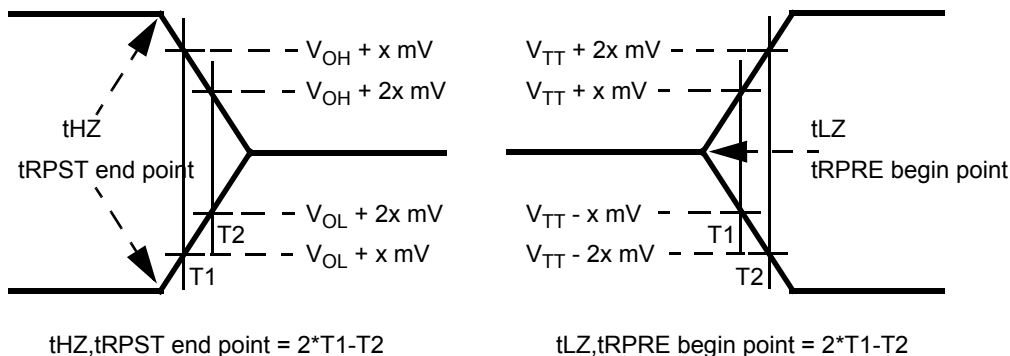

Figure 17 - Method for calculating transitions and endpoints
- $t_{DAL} = 4 + (15 \text{ ns} / 3.75 \text{ ns}) \text{ clocks} = 4 + (4) \text{ clocks} = 8 \text{ clocks}$ .
18. tHZ and tLZ transitions occur in the same access time as valid data transitions. These parameters are referenced to a specific voltage level which specifies when the device output is no longer driving (tHZ), or begins driving (tLZ) . Figure 17 shows a method to calculate the point when device is no longer driving (tHZ), or begins driving (tLZ) by measuring the signal at two different voltages. The actual voltage measurement points are not critical as long as the calculation is consistent. tLZ(DQ) refers to tLZ of the DQS and tLZ(DQS) refers to tLZ of the (U/L/R)DQS and  $\overline{(U/L/R)DQS}$  each treated as single-ended signal.
19. tRPST end point and tRPRE begin point are not referenced to a specific voltage level but specify when the device output is no longer driving (tRPST), or begins driving (tRPRE). Figure 17 shows a method to calculate these points when the device is no longer driving (tRPST), or begins driving (tRPRE) by measuring the signal at two different voltages. The actual voltage measurement points are not critical as long as the calculation is consistent.